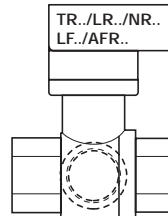
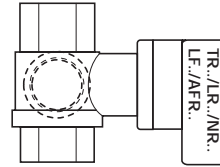
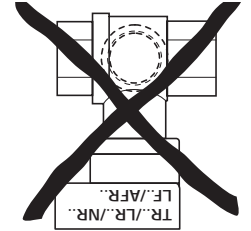

Fig. 1
Fig. 2
Fig. 3
3. Insert the cam ring B as shown in Fig. 1, so that the switching point C just about operates the switch. Connection S1–S2 is switched (the arrow D is now at the top).
* 3 mm (1/8") hexagonal key not included with the actuator, see Fig. 2
The ball valves may be mounted either **vertically** (Fig. 1) or **horizontally** (Fig. 2). However, mounting the valves with the stem pointing downwards, i.e. upside down, is not recommended (Fig. 3).